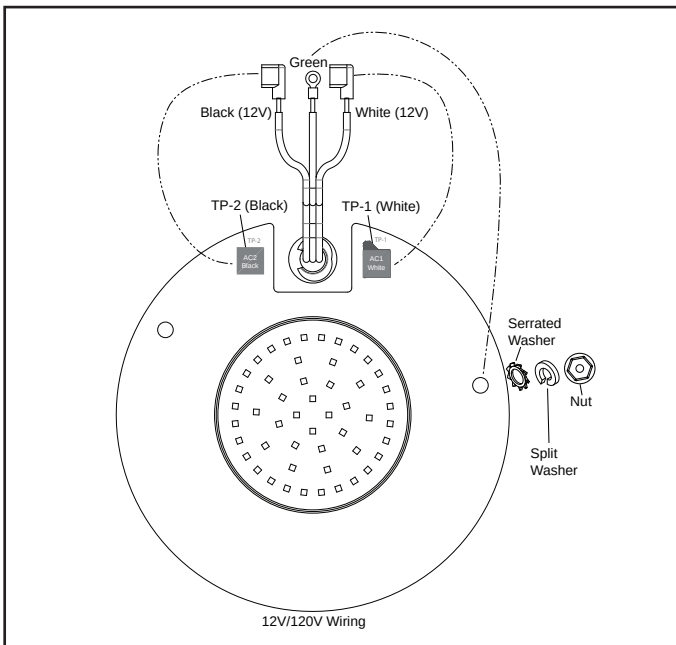

**Figure 8. Large Light Engine (PCB) Replacement and Wiring**
3. Remove three (3) nuts and washers.
6. Place new LED board and light driver board into the fixture with the orientation shown in Figure 8.